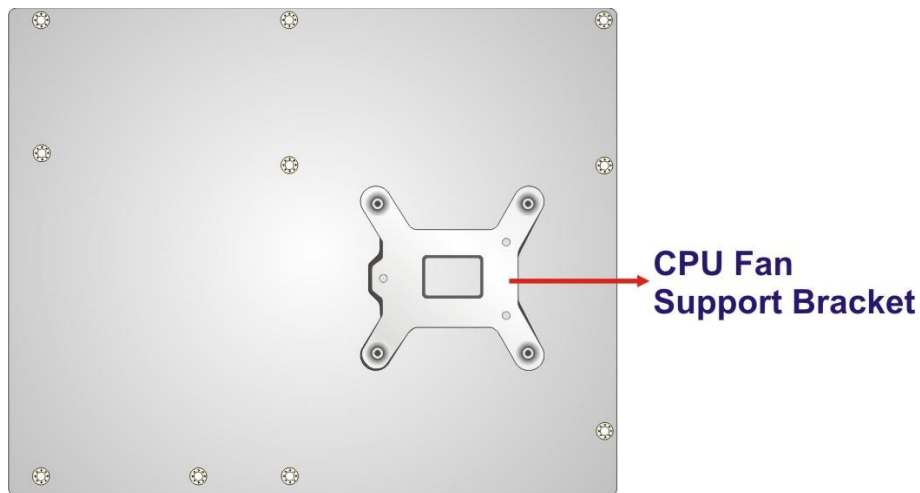

Figure 4-7: Cooling Kit Support Bracket
Step 1: A cooling kit bracket is pre-installed on the rear of the motherboard. See **Figure 4-7**.